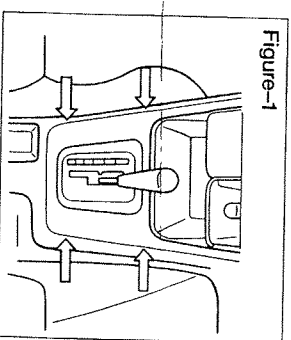

Figure-1
- Remove the gearshift cover by pulling up slightly and back in areas indicated by arrows in Figure-1.